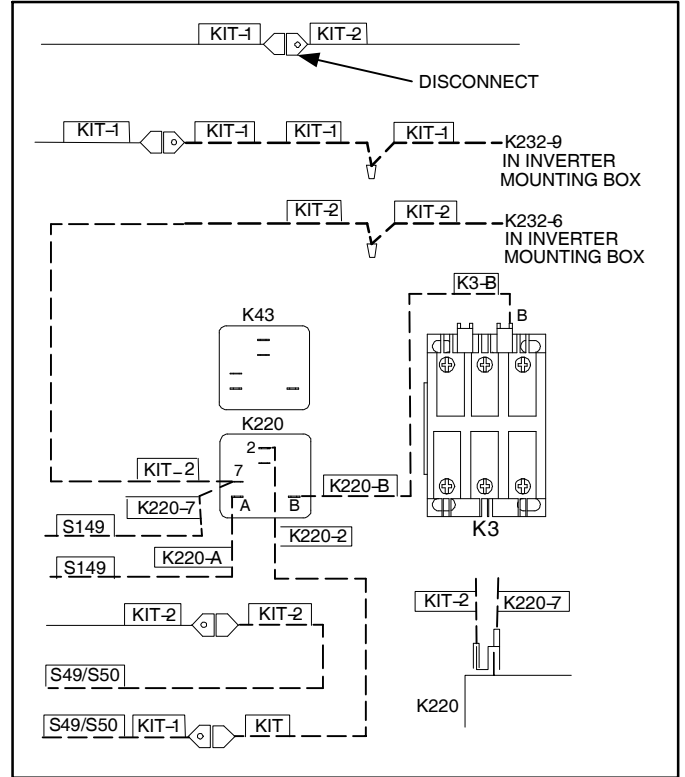

Figure 8. Installing Float Switch, VFD and Freezestat Kits
6.2. Make wiring connections as illustrated in figure 8 using kit provided harnesses.
6.2.3. Connect wire from VFD kit marked **KIT-2** to float switch kit harness wire marked **K220-7** receptacle/tab combination that was just connected to the relay in step 6.2.2. (see figure 8).
6.2.6. Make all other wiring connections as illustrated in figure 8 and per wire markings. In addition, see wiring diagram provided with VFD kit.